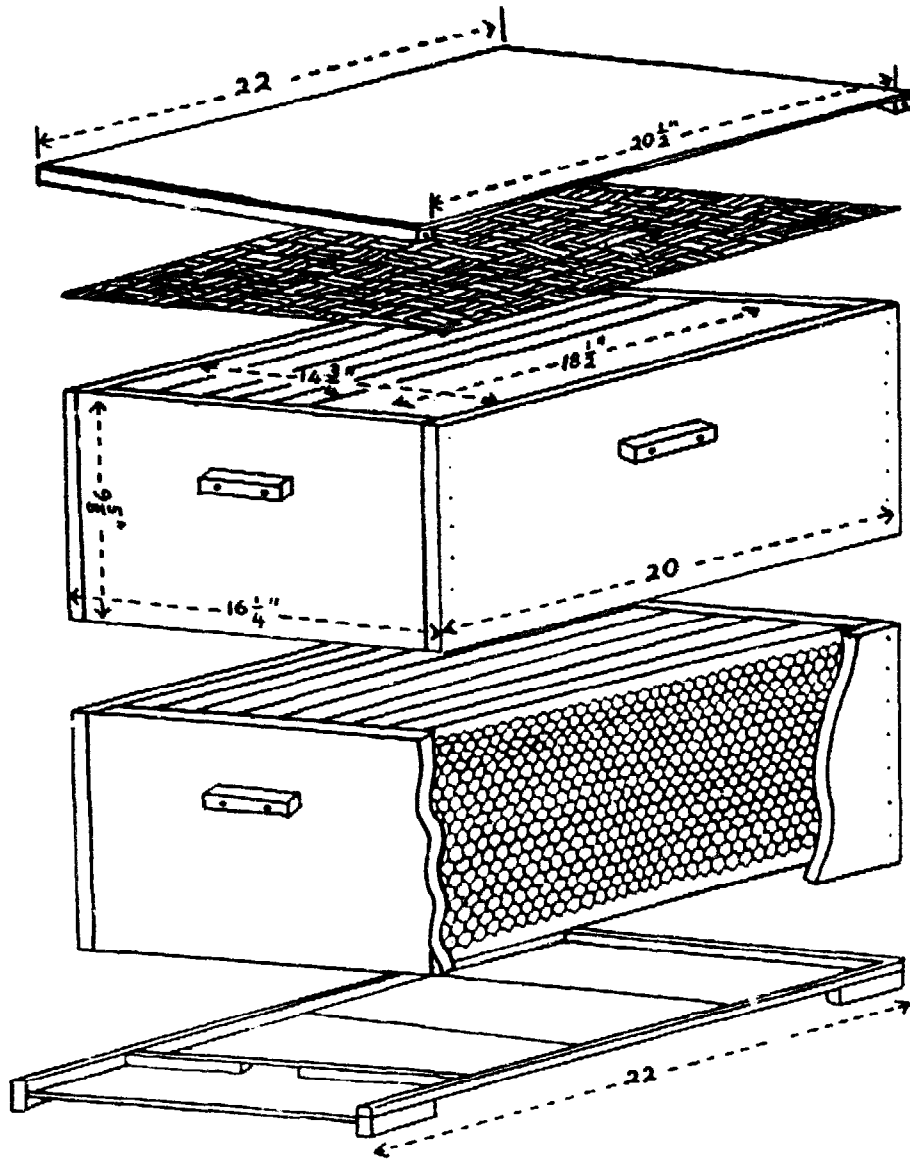

Figure 1. Langstroth beehive
Figure 1 shows the Langstroth hive and its parts as follows:
6. Outside cover. This protects the frames and supers underneath. A flat-top cover can be made of 0.97cm (3/8") thick boards nailed to a rectangular frame 5.08cm (2") high, all covered with galvanized sheet metal, tar paper, or other waterproof material. A simple, flat-top cover is shown in Figure 1, page 11. The boards are nailed to two strips of wood made to overlap the front and back top edge of the honey super. Any cracks are filled neatly with coal tar spread from the outside surface of the cover. Clay, putty, or other crack sealants can also be used.